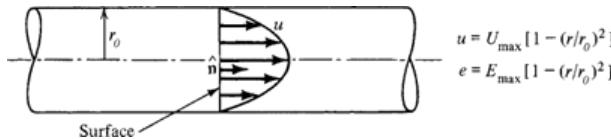

Figure P2.4
- 2.4** Evaluate the integral  $\int \rho e (\mathbf{V} \cdot \hat{\mathbf{n}}) dA$  over the surface shown in Figure P2.4 for the velocity and energy distributions indicated. Assume that the density is constant.